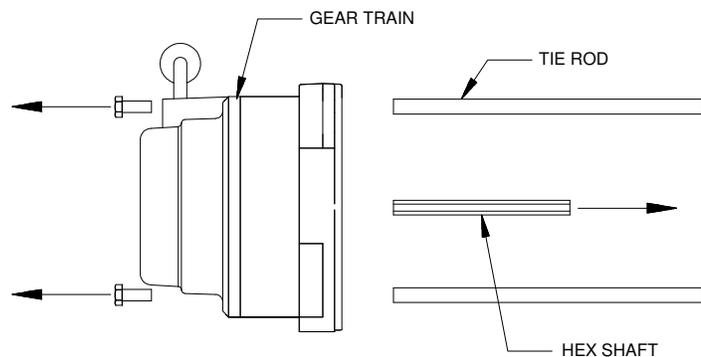

Figure 2.2
3. Set the gear train back down in a horizontal position and remove the other three tie rod bolts and tie rods (*Figure 2.2*). A clamp or pliers may have to be attached to the tie rods to remove the bolts. Remove the hex drive shaft.
7. Re-install the winch tie rods in the previously marked positions on the motor end and finger tighten bolts (*Figure 2.2*).
8. Install hex drive shaft into center of gear train. With the clutch lever in the engaged position, rotate the shaft several times to make sure the gears move freely (*Figure 2.2*).